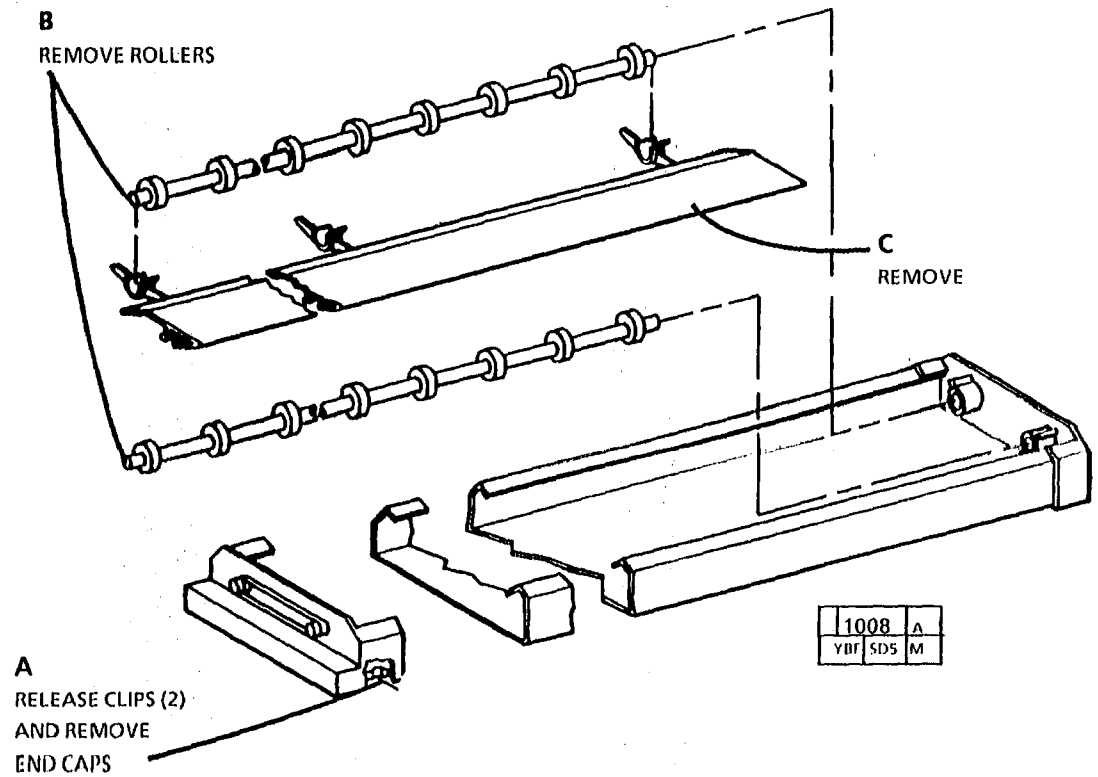

Figure 1. Removing the Upper Document Feed Rolls
3. (Figure 1): Remove the rolls.